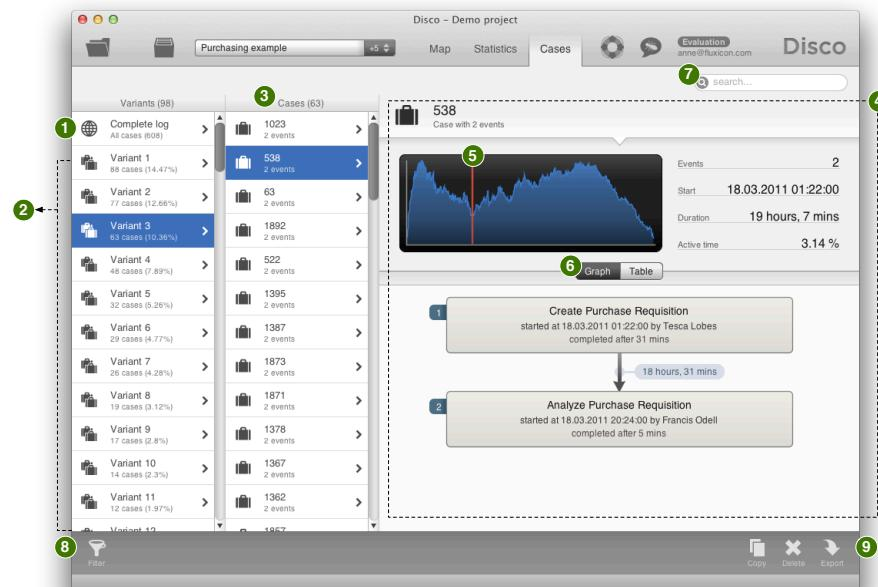
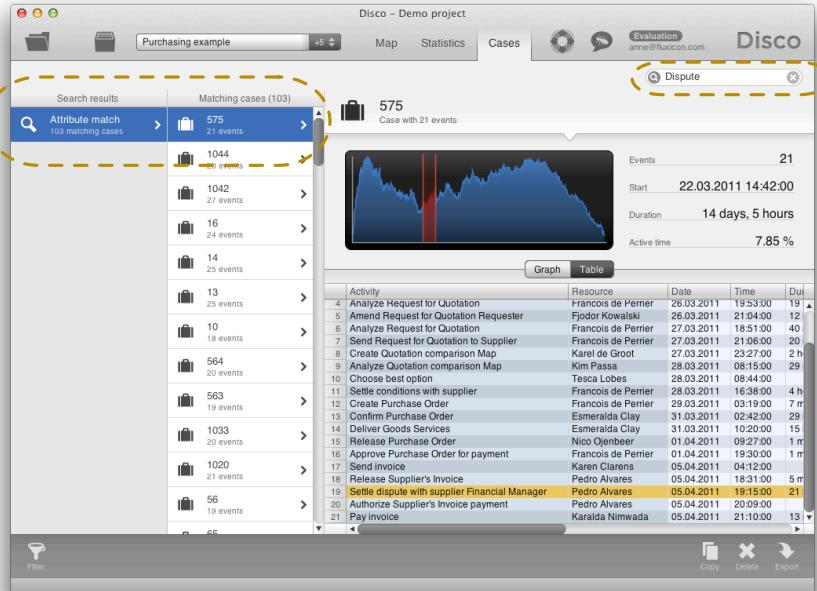

Fig. 4.40. The Cases view in Disco.
Fig. 4.43. Searching for a text snippet gives you a list of all matching cases and highlights the matching events in the case.
You get to the Cases view by simply changing to the *Cases* tab as shown in Figure 4.40.
- ❶ *Complete log.* Select the Complete log item on the left to see a list of all cases in your data set in the second column to the right (❸ in Figure 4.40).
- ❷ *Individual variants.* Alternatively, you can select an individual variant, whereas a variant is a specific sequence of activities. Only cases that follow the same activity sequence are then displayed in the list of cases in the second column (❸). The variants are sorted by their frequency.
- For example, in Figure 4.40 the third most frequent variant has been selected. There are 63 cases (accounting for 10.36% of the whole log) following the activity sequence *Create Purchase Requisition* → *Analyze Purchase*. One of these cases (case 538) has been selected and is displayed. Refer to Section 4.3.1 to learn more about variants and how to take advantage of them in Disco.
- ❸ *List of cases.* A list of cases IDs for either the complete log (❶) or the selected variant (❷).
- ❹ *Individual case.* In the main window you can see further details about the currently selected case from ❸. Refer to Section 4.3.2 for further details about the detailed case view.
- ❺ *Search.* You can search for specific case IDs or attribute values. Read Section 4.3.3 to see how searching cases works.
- ❻ *Filtering.* The log filter controls for the current data set can be accessed from each of the analysis views. Filters are really important drill into specific aspects of your process and to focus your analysis. Read Chapter 5 for detailed information on how filtering works in Disco.
- ❼ *Copy, Remove, and Export data set.* Data sets can be copied, deleted, and exported right from the current analysis view. Read Section 6.2 for further details on copying and deleting data sets. Process maps can be exported, for example, as a PDF file. The export functionality of Disco is explained in detail in the Export reference in Chapter 7.
Usually, a large portion of cases in your data set is following just a few variants. For example, in the purchasing process shown in Figure 4.40 the top five most frequent variants cover the process flows of ca. 50% of all cases while there are 98 different variants in total.
- *Know what the most common activity sequences are.* For example, in Figure 4.40 one can see that the third most frequent variant is the activity sequence *Create Purchase Requisition* → *Analyze Purchase*. In total 63 cases (10.36% of all cases) follow this particular pattern from beginning to the end of the process. From a process improvement perspective this seems strange. Why are so many cases stopped? Should the purchasing guidelines be updated to clarify what people can buy and what not?
You can inspect individual cases by selecting one of the case IDs in the list of cases (❸ in Figure 4.40). Information about the currently selected case is shown in the main window (❹ in Figure 4.40).
In this case view, you have some overview statistics about the case in the upper part, and a detailed history view in the lower part of the screen (Figure 4.40):
- **Events.** The number of events (i.e., the length of the history) for this particular case. For example, the case 538 displayed in Figure 4.40 has 2 events, while case 1031 from Figure 4.42 has 17 events in total.
⑥ *Graph and Table view.* You can switch between a Graph and a Table view for inspecting the concrete history for the case. The Graph view is shown in Figure 4.40 and only displays the activity sequence plus time and resource information. Additional data attributes are hidden.
For example, imagine that you are analyzing the purchasing process from the demo example and you quickly want to inspect a case where a dispute occurred. Instead of adding a filter to drill down to cases containing a dispute activity (see Section 4.1.5), you can simply search for ‘dispute’ in the search field of the Cases view (⑦ in Figure 4.40) as shown in Figure 4.43.